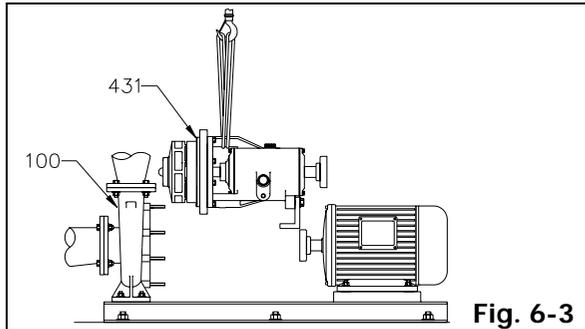

Fig. 6-3
11. Jack out the back pull-out assembly from casing (100). Make sure stuffing box cover gasket (431) is not damaged (Fig. 6-3).